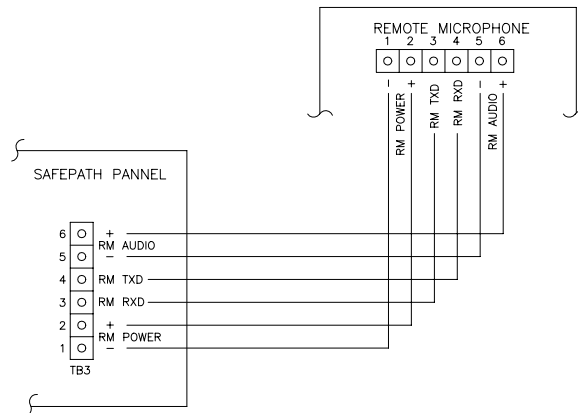

Figure 1.
2. Attach the 6 wires as shown in the wiring diagram (Figure 1). Be sure to use the specified wire.